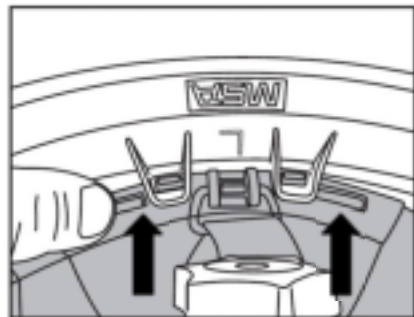

Fig. 5
- (2) Install the inner module, sliding it inside the shell until rear locating pins are properly positioned (see Fig. 5).